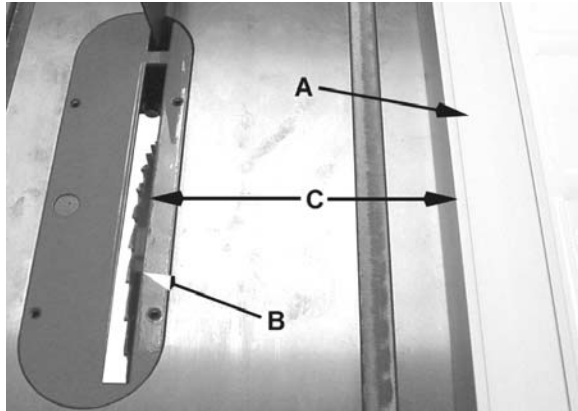

Figure 32
The rip fence (A, Fig. 32) should be set for the width of the cut (C, Fig. 32) by using the scale on the front rail, or by measuring the distance between blade (B) and fence (A). Stand out of line with saw blade and workpiece to avoid sawdust and splinters coming off the blade or a kickback, if one should occur.